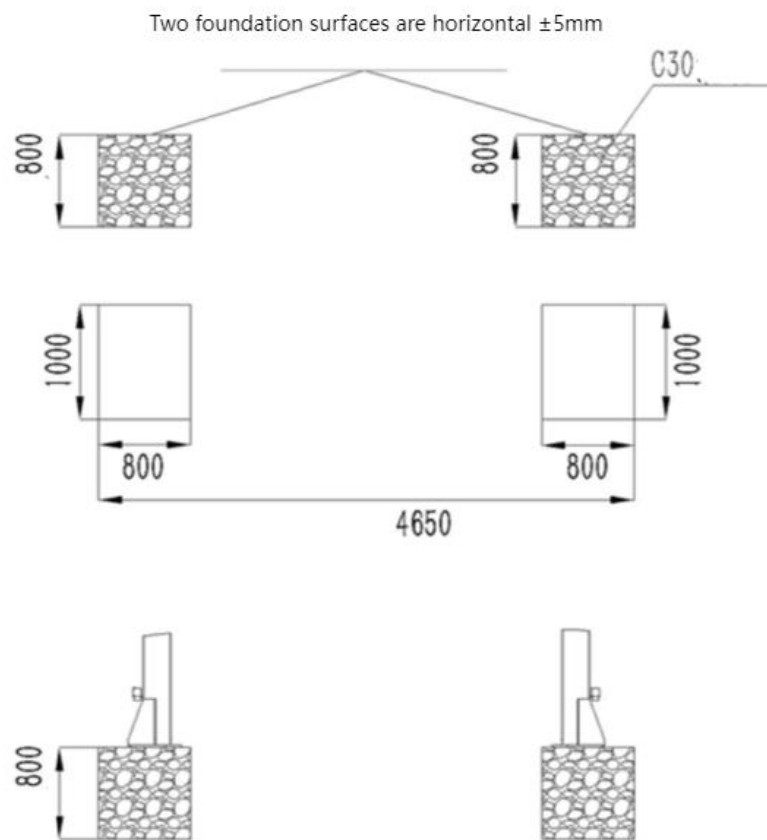

Figure 3 Lifting machine foundation size diagram (unit: mm)
7.2 The lifting machine must be installed on concrete foundations with C30 grade concrete, a thickness exceeding 600mm, and a horizontal deviation under 5mm. Newly poured concrete must remain dry for at least 20 days (see Figure 3). To ensure stability and safety during lifted loads, the foundation design should allow direct contact between the lifting machine's base plate and the concrete foundation. Installation on decorative surfaces like tiles is strictly prohibited, as it poses serious